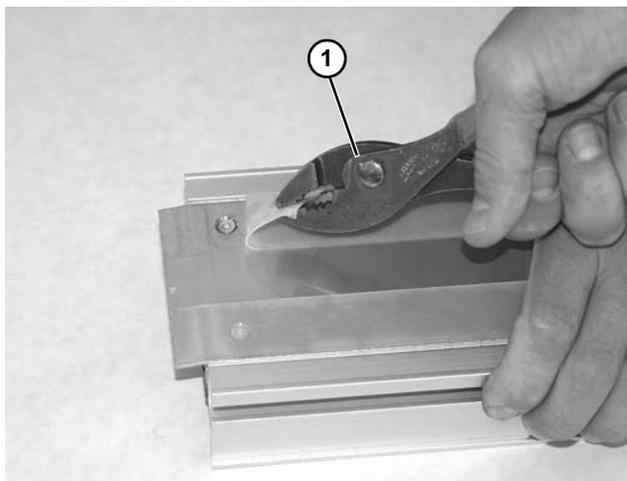

Figure 55
3. Remove old wear strip with a pliers (Figure 55, item 1).